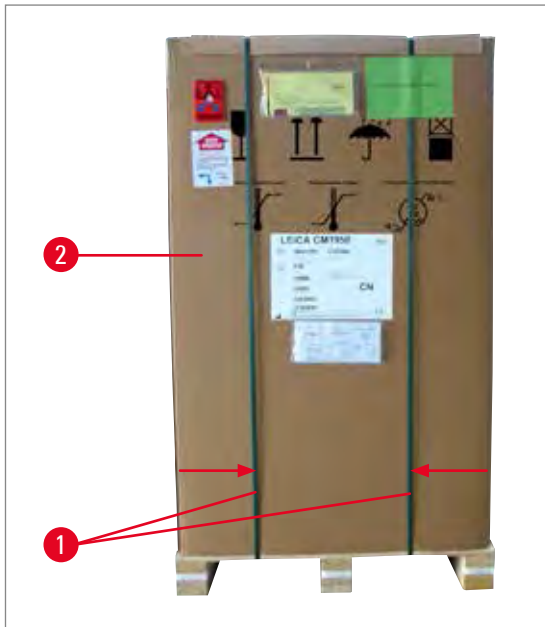

Fig. 1
2. Stand next to the crate and cut the strips at the location shown (see arrows in (→ Fig. 1)).